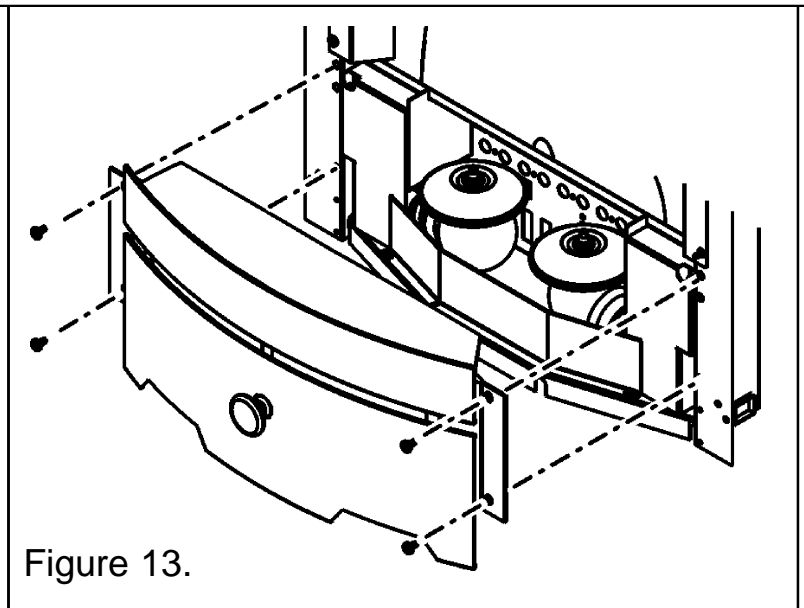

Figure 13.
- Align the four holes in the firefront assembly with those on the heater (See figure 13). Secure with the four screws supplied.